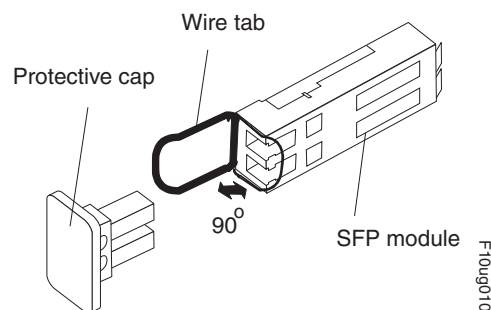

Figure 22. Unlocking the SFP module latch - wire variety
- For SFP modules that contain wire tabs, unlock the SFP module latch by pulling the wire latch outward 90°, as shown in Figure 22.